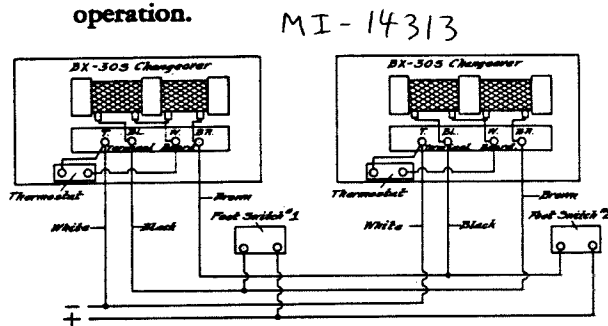

Figure 6—Picture Changeover Wiring Diagram for Two Projector Operation
9. Tighten the adjusting screw on the top of the changeover until the shutter will not open when the footswitch is operated. Then loosen the adjusting screw slowly so that the shutter will open when the footswitch is operated. Do not loosen the screw enough so that the shutter opens with such force that it hits the top of the film trap casting, rebounds and partially closes the aperture. Figures 6 and 7 show the wiring and connections to the changeover units for two and three projector operation.